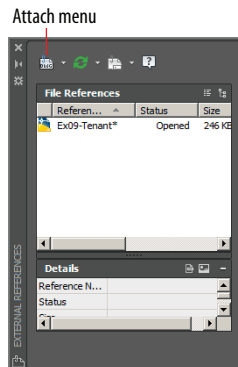

FIGURE 9.27 Attaching a DWG file in the External References palette
2. Select the file tab of `Ex09-Tenant.dwg`. Then select the ribbon's View tab, and click the External References Palette button in the Palettes panel. Open the Attach menu, as shown in Figure 9.27.